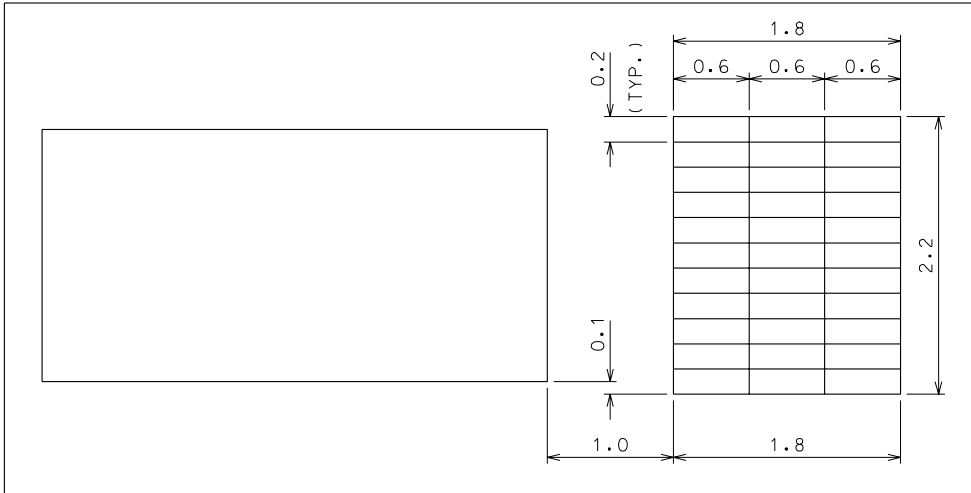

Figure P7-10 The hole locations table dimensions
- STEP 2:** Using Figure P7-10 as a guide, draw the table outline block and grid lines.